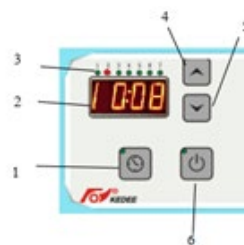

Fig. 5-6
- The signal light of Key (1) goes off and Display (2) automatically changes to display the current time (Fig. 5-6) after 10 seconds or by clicking ⌚ Key (1) again.